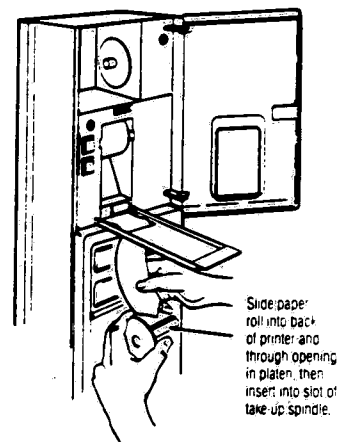

FIGURE 4-8 – Take-up Spindle Loading
12. Insert tab of new paper roll into slot of take-up spindle and rotate spindle to secure paper in slot (Figure 4-8).